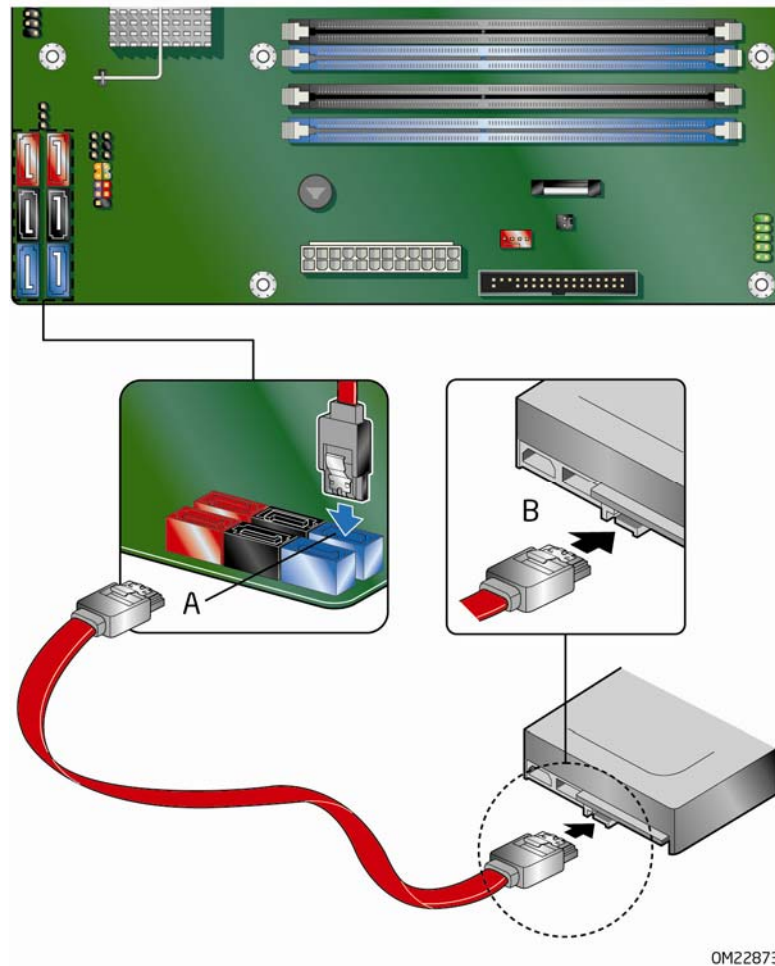

Figure 20. Connecting a Serial ATA Cable
2. Attach one end of the SATA cable to one of the SATA connectors on the board (Figure 20, A) and attach the other end of the cable to the SATA drive (Figure 20, B).